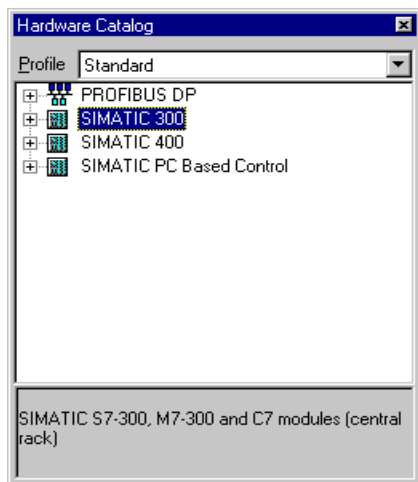

Figure 19 "Hardware Catalog" dialog box
3. Open the "Hardware Catalog" dialog box and select the "SIMATIC 300" subdirectory (see Figure 19).